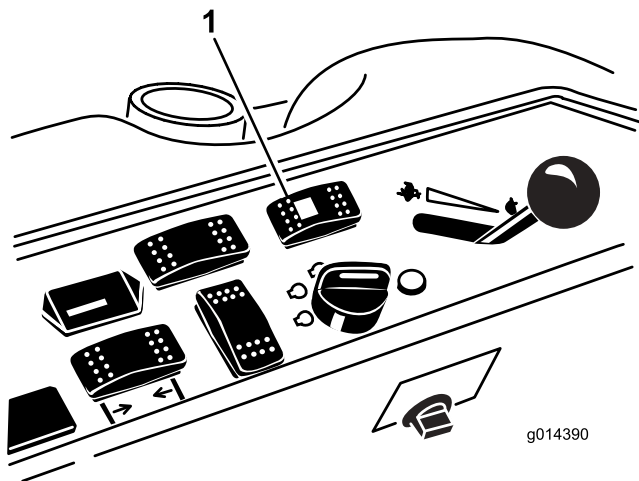

Figure 40
1. Press the steering selector switch to the rearward (four wheels steer) position (Figure 40).